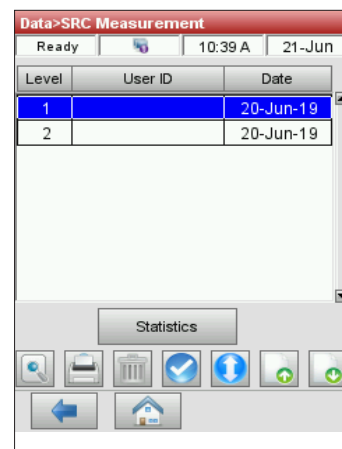

Figure 8. SRC measurement
3. On the Data>SRC Measurement screen (figure 8), select the run (located on the left) that you want to review.
4. Tap the applicable button on the right (figure 8):